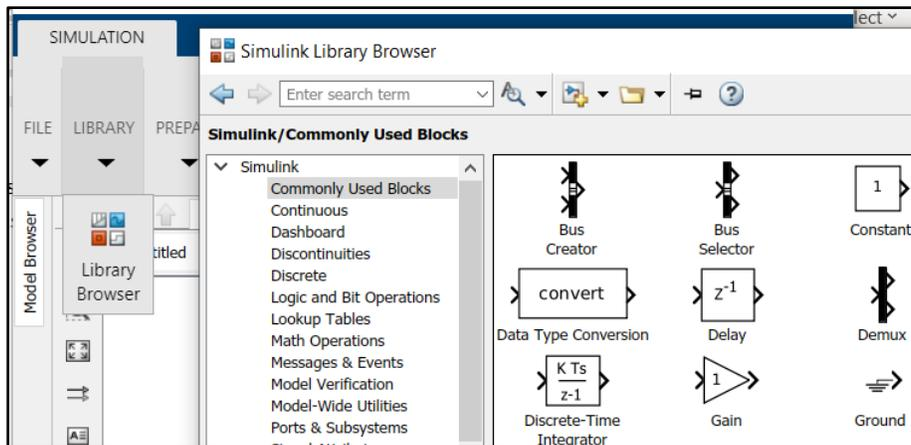

Figure 3. Using the library browser to select blocks.
1. Include the blocks into the model window: (see Figure 3)